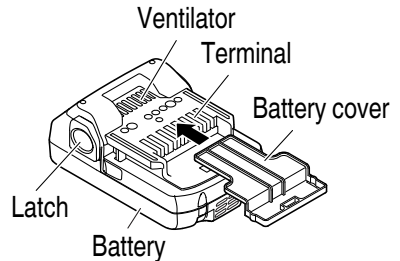

Fig. 1
- To prevent shorting from occurring, load the battery in the tool or insert securely the battery cover for storing until the ventilator is not seen. (Fig. 1)